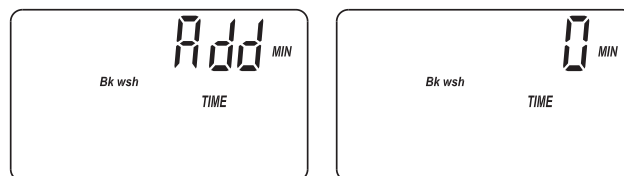

Figure 31
7. Press SELECT again to display the alternating screens shown in Figure 31.